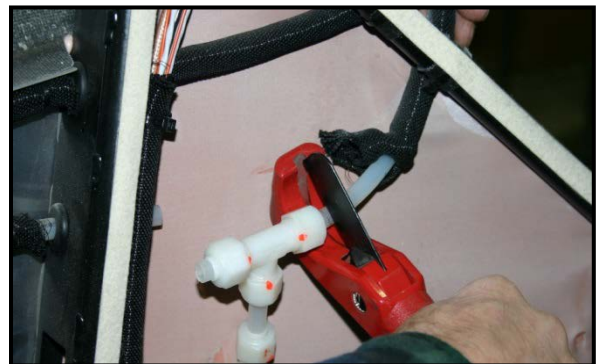

FIGURE 5A – Tubing Cutter
19. Remove the tee, elbow (if applicable) and short sections of fuel line forward of the fuel selector by cutting the tube where it joins the tee using a scissor type razor tubing cutter (see Figure 5A and 5B), then loosening the compression fitting at the forward connection of the fuel selector. The fuel lines may have residual fuel in the lines. Collect any fuel in a fuel safe container.